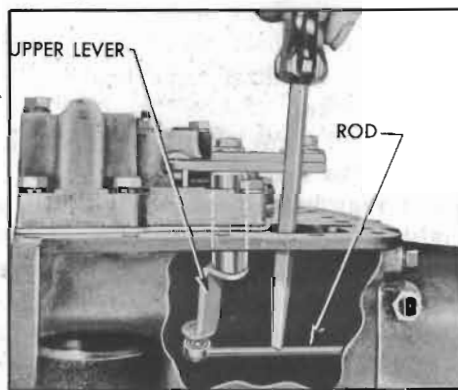

Figure 5-30—Disconnecting Valve Operating Rod from Upper Lever
6. Disconnect valve operating rod from valve operating lever (upper) by placing screwdriver on rod close to lever and exerting slight pressure. A spring loaded socket on rod engages a ball stud on lever. See figure 5-30.
1. Disconnect valve operating rod from upper operating lever if not previously done. See figure 5-30.